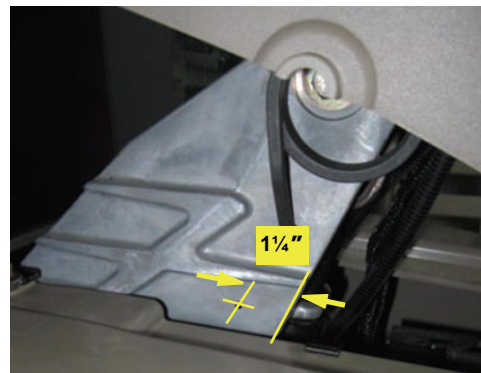

Figure 1b: Drilling the column support
- b. Drill a 1/4" hole in the column support half way between the top of the lower steering column cowl and the bottom of the rear-pointing cast rib in the column support and 1 1/4" from the rear edge of the support (Figure 1b).